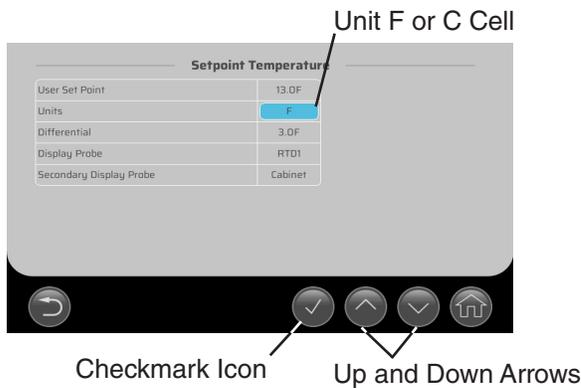

Fig. 21
- 3) Press the Units F or C cell in the Units row. See Fig. 21.